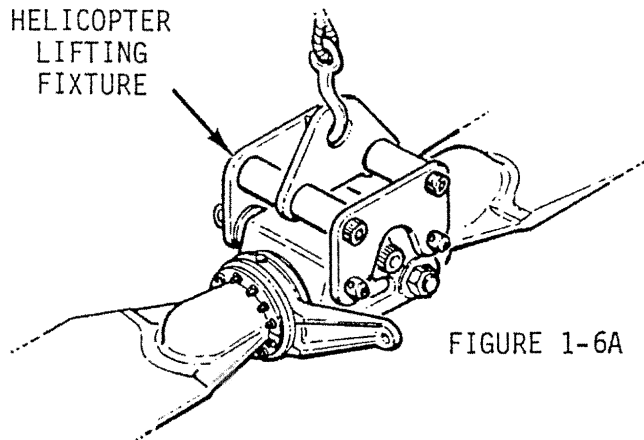
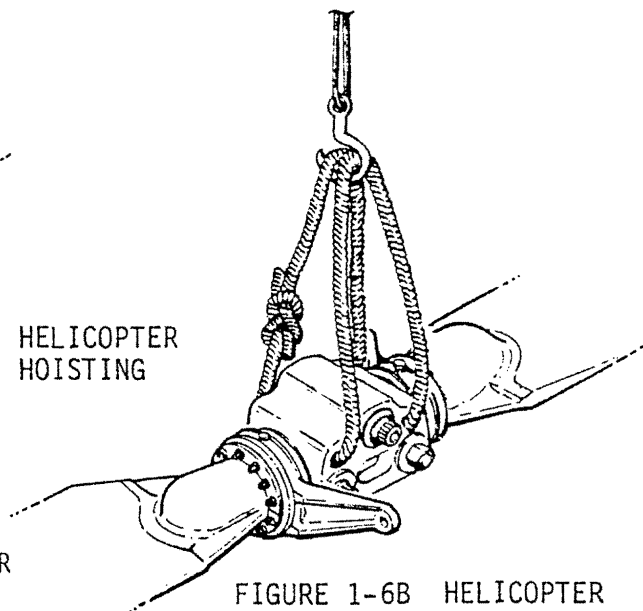

FIGURE 1-6A HELICOPTER
FIGURE 1-6B HELICOPTER
2. Hoist helicopter using MT527-1 helicopter lifting fixture as shown in Figure 1-6A, or by passing one-inch diameter soft nylon rope through the lightening holes in main rotor hub and forming a double loop per Figure 1-6B. Rope must have a minimum tensile strength of 2,500 lb.